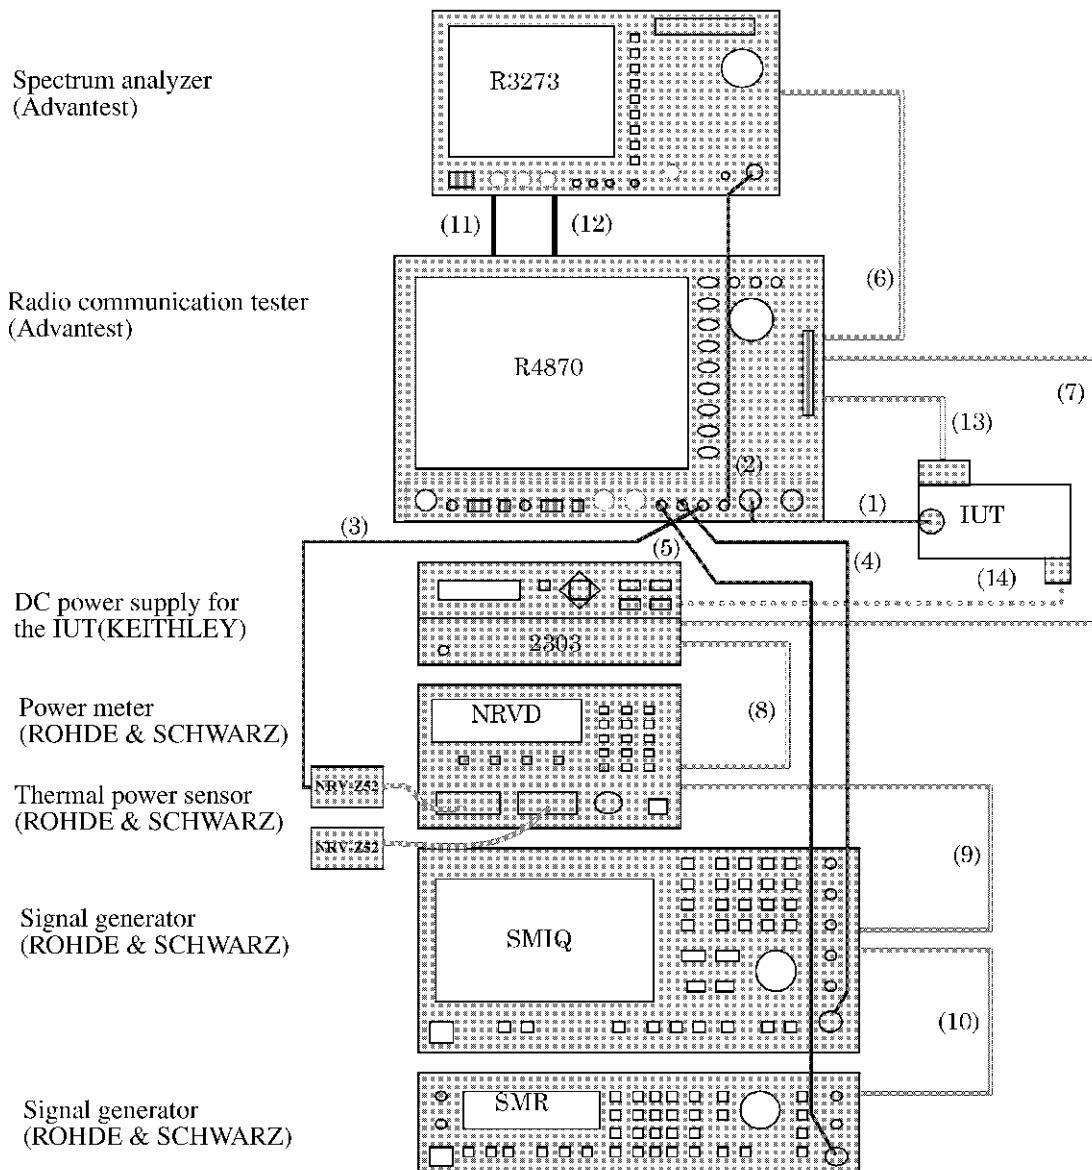

Figure 1-1 Test System Connection Diagram
Connections between system devices are shown in Figure 1-1. For cable numbers, refer to Section 1.3.2, "List of Connections between Devices."
(5)	R4870 (F) INTERFERE 1	↔	SMR (F) RF 50 Ω
(6)	R4870 (R) CONTROLLER	↔	R3273 (R) GPIB
(7)	R4870 (R) CONTROLLER	↔	2303 (R) IEEE-488
(8)	2303 (R) IEEE-488	↔	NRVD (R) IEEE-488
(9)	NRVD (R) IEEE-488	↔	SMIQ (R) IEEE-488
(10)	SMIQ (R) IEEE-488	↔	SMR (R) IEEE-488
(11)	R4870 (R) TRIG OUT	↔	R3273 (R) EXT TRIG
(12)	R4870 (R) 10MHz REF	↔	R3273 (R) 10MHz REF IN
(13)	R4870 (R) RS-232	↔	IUT HCI PORT
(14)	2303 (R) OUTPUT	↔	IUT DC POWER PORT
*1: Numbers correspond to those in Figure 1-1.
*2: (F) means the front side of the device and (R) means the rear side of the device.
(5)	SMA-SMA cable	30 MHz to 13 GHz
(6)	GPIB cable
(7)	GPIB cable
(8)	GPIB cable
(9)	GPIB cable
(10)	GPIB cable
(11)	BNC-BNC cable	DC to 10 MHz
(12)	BNC-BNC cable	10 MHz
(13)	RS-232 cable	DSUB 9 pin
(14)	Power cable for the IUT
4. Check the connection between the R4870 and each device in accordance with Figure 1-1.